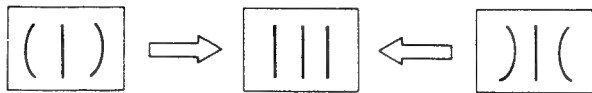

Fig. 29-4
- Adjust SIDE PIN by turning DA board RV15 as shown in Fig. 29-4.